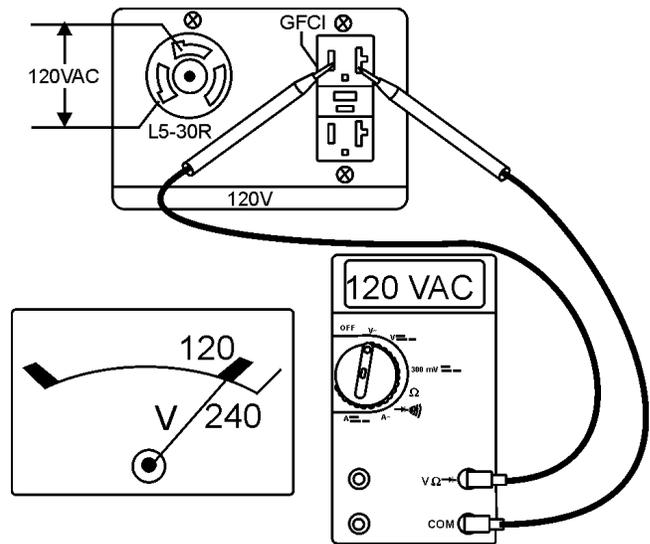

Figure 23. 120V GFCI/AUX. Receptacles
10. Read voltmeter on front panel of generator (Figure 23) and verify that 120 VAC is displayed. Using an external voltmeter as shown in Figure 23, verify that 120 VAC is present at the 120V twist-lock and GFCI duplex receptacles.